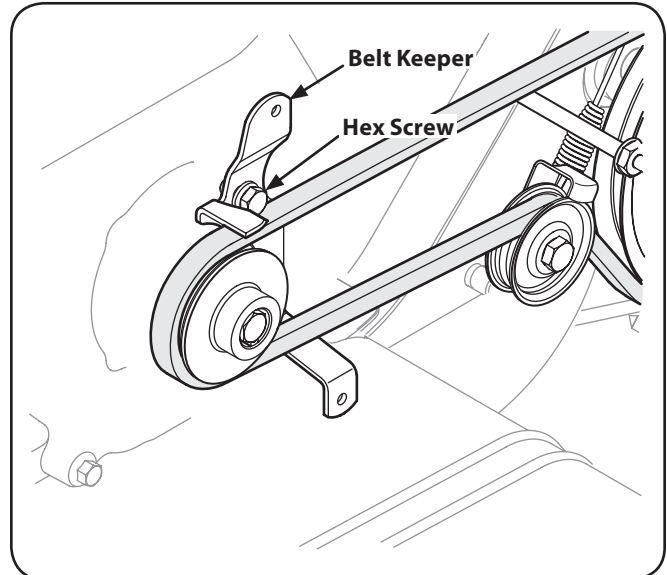

Figure 7-3
4. Using a ½" wrench, remove the hex screw securing the belt keeper to the engine. See Fig. 7-3.